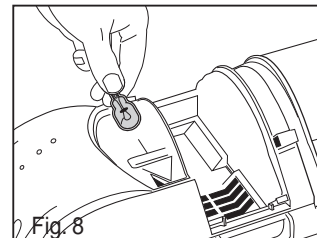

Fig. 8
- 3) Push in new bulb, replace lens cover and replace screw (Fig 8).